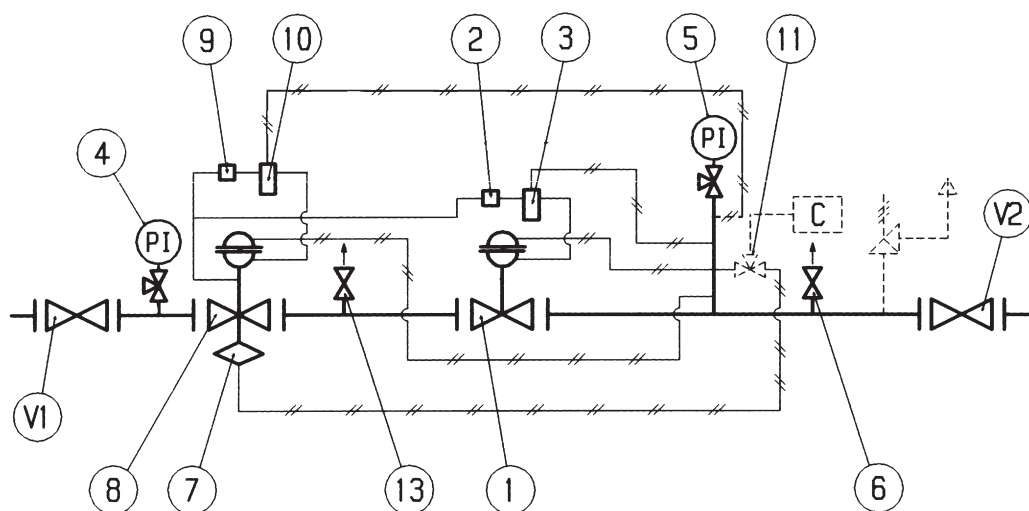

Fig. 26
5.6 COMMISSIONING THE REGULATOR PLUS REFLUX 819 IN-LINE MONITOR WITH SB/82 SLAM-SHUT VALVE (FIG. 26)